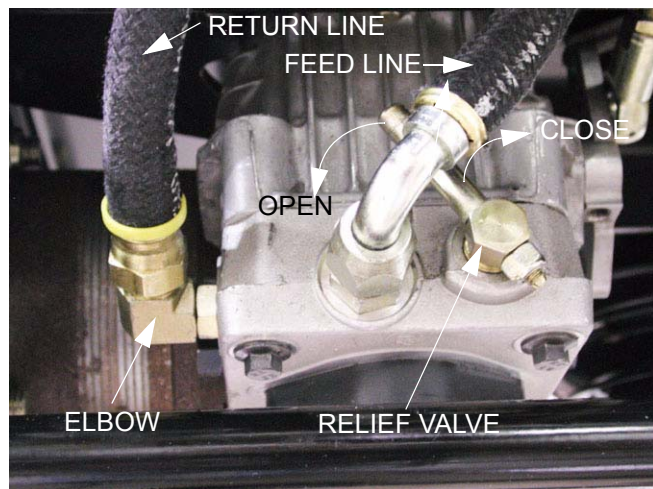

Figure 5.14
- 5.14. Open the relief valve on the hydro pump that is to be tested. This will relieve any residual hydraulic pressure. See Figure 5.14.
- 5.19. Disconnect the return line that runs from the outboard side of the hydro pump to the reservoir using a 7/8" wrench on the nut, and an 11/16" wrench to hold the fitting on the hydro pump. Plug the line, cap the fitting on the pump. See Figure 5.14.